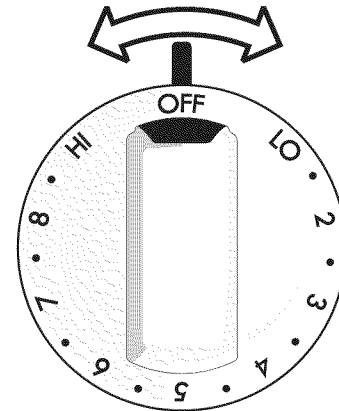

Fig. 2
2. Push in and turn the surface control knob in either direction to the desired setting (See Fig. 2).
- The surface control knobs do not have to be set exactly on a particular spot (See Fig. 2). Use the graphics provided as a guide and adjust the control knob as needed. Refer to Fig. 1 for suggested power level settings.